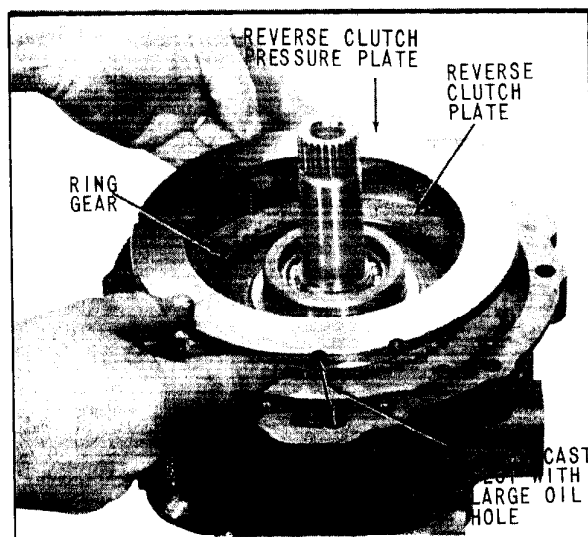
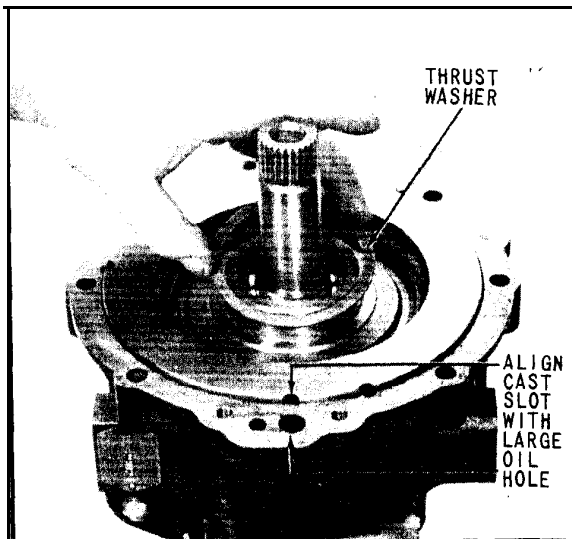

Fig. 55 Installing Reverse Clutch Pressure Plate
Fig. 56 Installing Thrust Washer and Reverse Clutch Pressure Plate
47. Install reverse clutch plate over exposed splined teeth of ring gear. Clutch plate must be firmly and evenly seated on the case face forming the rear of the reverse clutch cavity, (Fig. 55).
48. Install the reverse clutch pressure plate with the twelve (12) holes in the downward position. Align the cast slot in the pressure plate with the large oil hole in the front face of the transmission case, (Fig. 55). Since the twelve (12) pressure plate springs are not evenly spaced, the slot and oil hole alignment are
required to locate the pressure plate with relation to the pressure plate springs, (Fig. 55). A properly assembled reverse pressure plate will appear as shown in (Fig. 56). If pressure plate does not drop down to position, approximately flush with transmission case front face, check the three (3) dowel pins for possible misalignment.
49. Coat thrust washer with petroleum jelly and assemble, as shown in (Fig. 56).